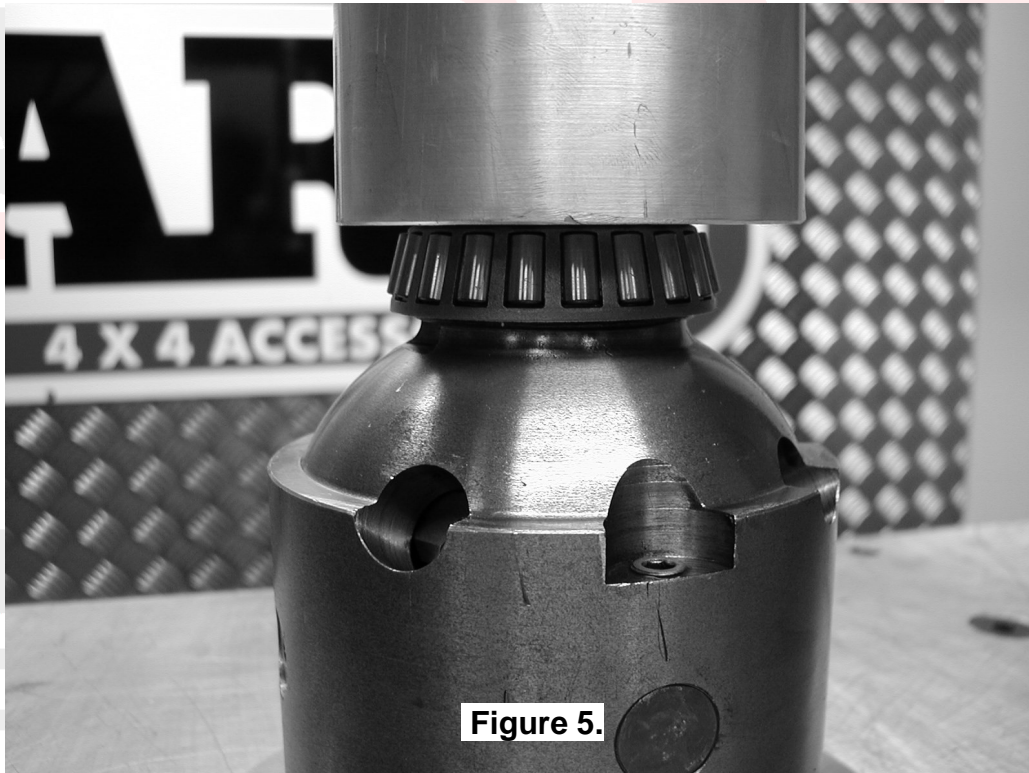

Figure 5.
- Using a bearing press or arbor press, press one of the bearing cones (supplied with the *Air Locker* kit) onto one bearing journal of the *Air Locker* (refer to Figure 5.) until the bearing seats firmly against the bearing journal shoulder.